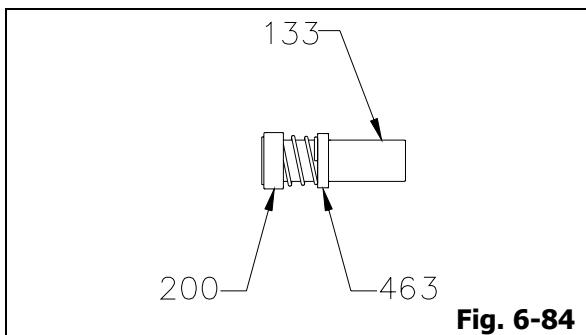

Fig. 6-84
- Install abutment ring (463) onto shaft sleeve (133) until abutment ring (463) reach the abutment ring location marking which has been made on shaft sleeve (133) during disassembly, and install two (2) abutment ring jam nuts into abutment ring (463).
- Coat shaft sleeve (133) surface with oil, slide the rotary portion of mechanical seal (200) carefully onto shaft sleeve (133) by hand until the end of the mechanical seal (200) is fully seated on abutment ring (463) (Fig. 6-84).